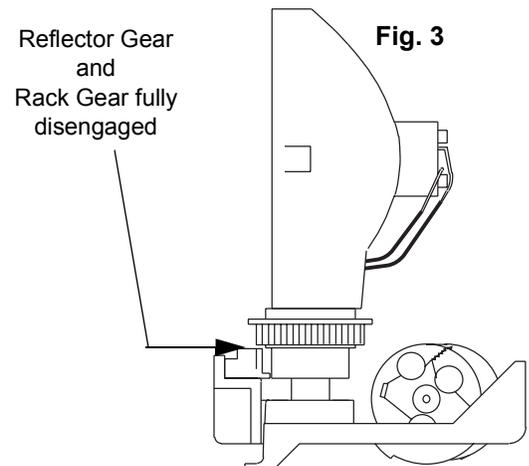

Fig. 3
3. Gently pry the reflector gear in an upward direction until the gear teeth are fully disengaged from the rack gear (Fig. 3). Do not lift the reflector any higher than this.